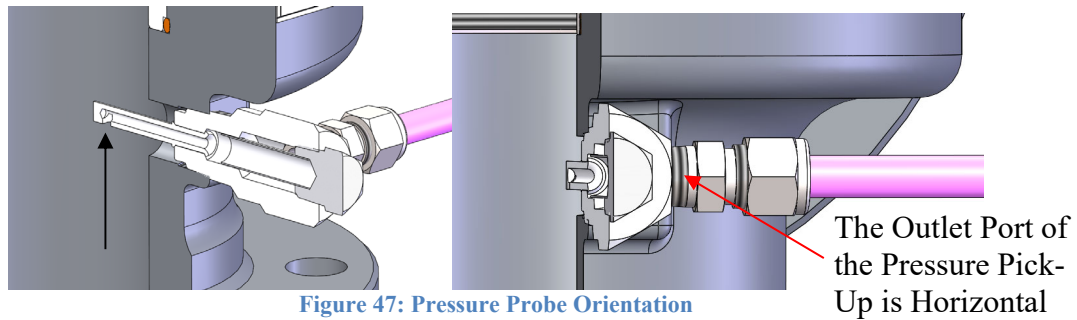

Figure 47: Pressure Probe Orientation
- a) The sense line port must be oriented horizontally so the pitot tube inlet is facing downwards, parallel to the flow. See Figure 47.